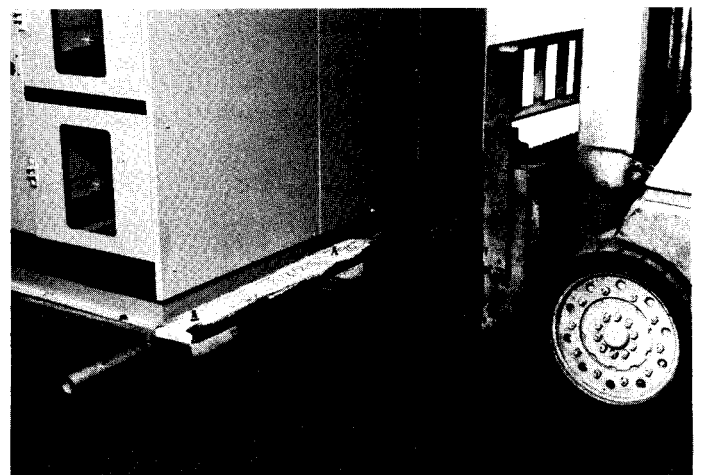

Fig. 2-7. Placement of rollers under shipping skid
5. Carefully lower the gear until it rests on the roller as shown in Fig. 2-7.
- Carefully lower the gear until it rests on the rollers (Fig. 2-7).